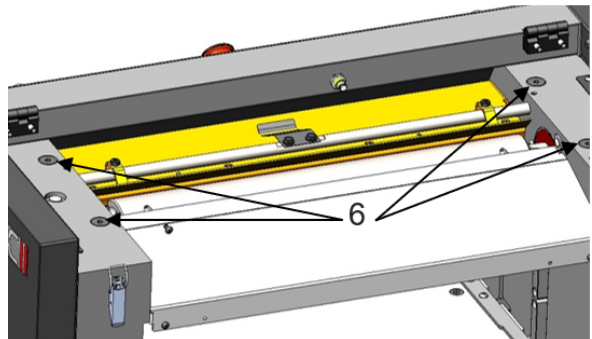

FIGURE 27: LUBRICATION
- Every 30 hours, lubricate the bushings. (Fig. 27)